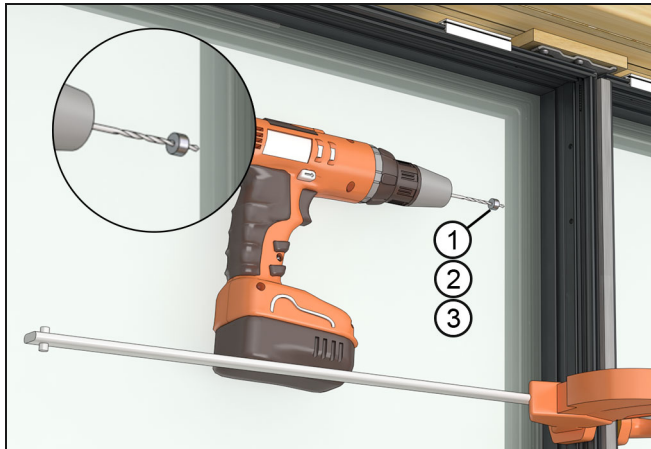

Figure 65 Use stop collar to determine depth. See table below
30. Using a drill with a stop collar use the installation holes as a guide and bore into the steel with a #23 drill bit. Note the depth of the stop collar on Figure 65 for different products.